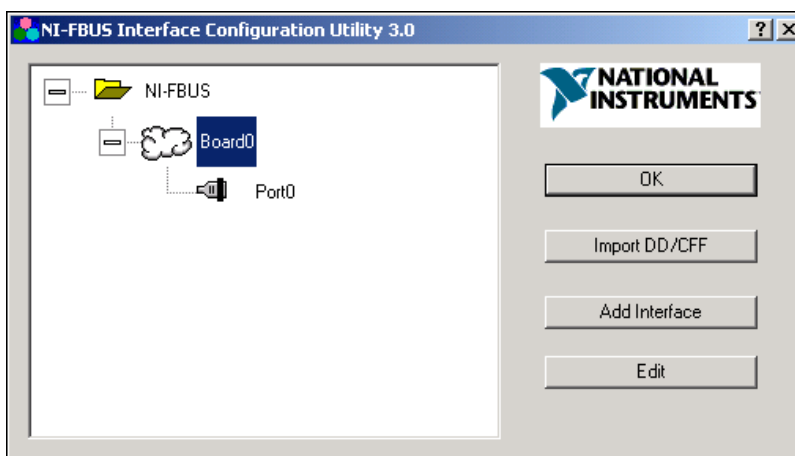

Figure 2-1. NI-FBUS Interface Configuration Utility
2. Select **Start»Programs»National Instruments»NI-FBUS»Interface Configuration Utility** to run the Interface Configuration utility. The utility appears in Figure 2-1.